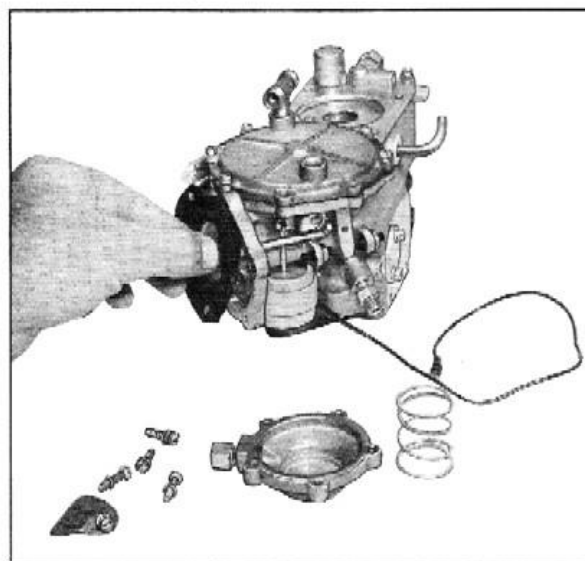

Fig. 24 Installing Enrichment Diaphragm
1. Connect enrichment diaphragm rod by slightly twisting the enrichment diaphragm rod to hook into enrichment lever, then secure rod with hairpin retainer, Fig. 24.